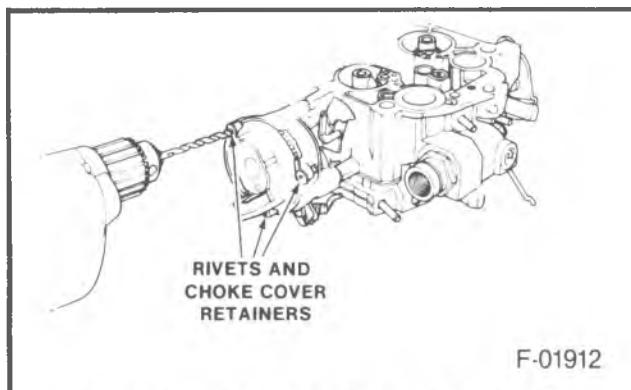

Figure 23 -- Removing Choke Cover Rivets
- Remove or Disconnect** (Figure 23)
1. Heads of choke cover attaching rivets (330).